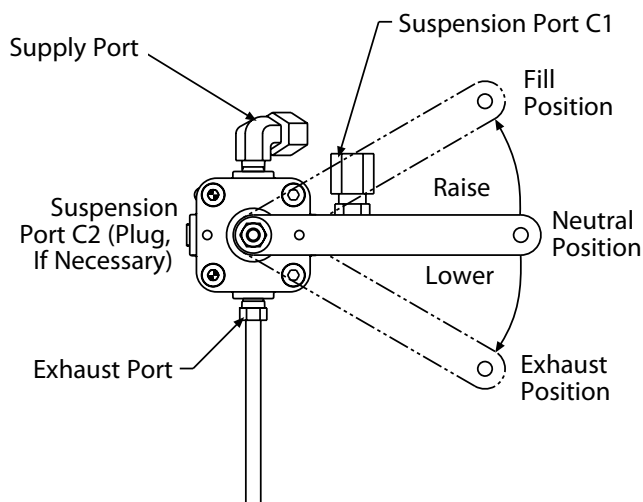

Figure 2. Ride height adjustment
2. If necessary, rotate the control arm for the height control valve up to raise or down to lower the axle until the distance between the suspension mounting surface and the axle center matches the recommended suspension ride height (Figure 2).